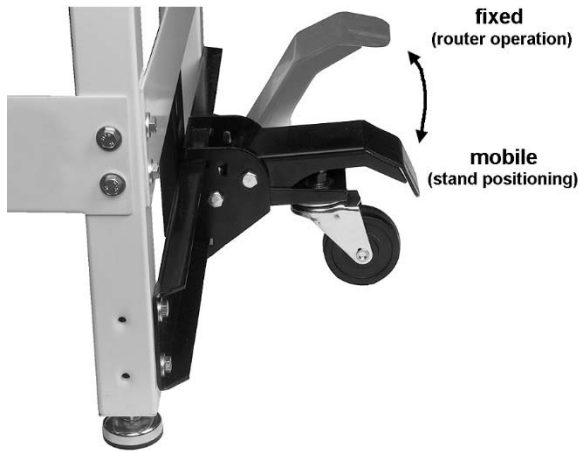

Figure 7-1
1. Push down pedal on swivel caster (Figure 7-1) to move stand. Lift up pedal with foot to disengage swivel caster. NOTE: The height of levelers may need adjustment for proper swivel caster engagement/disengagement.